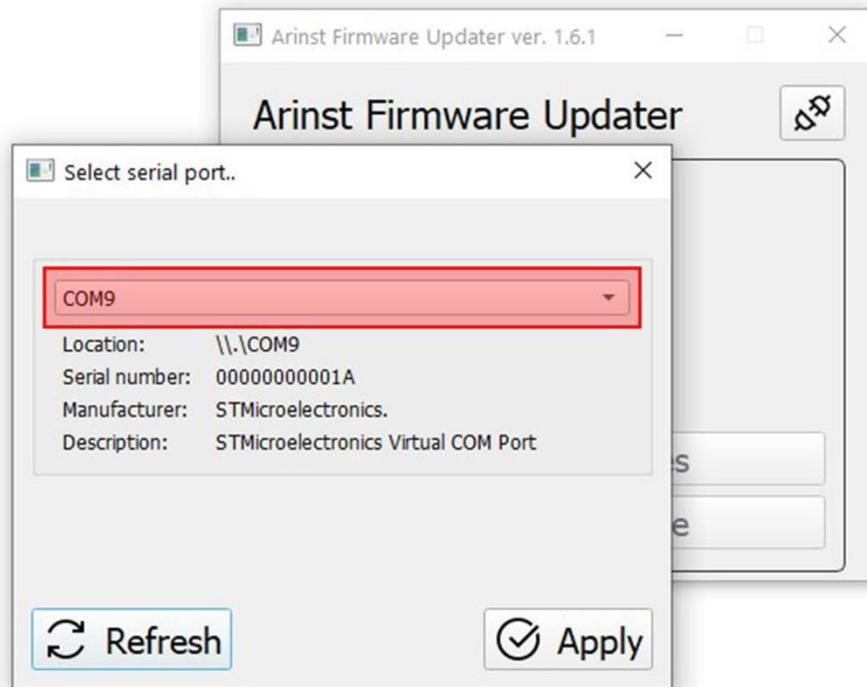

Figure A2.2 – Selection of a virtual COM port for connecting the device
2.4. In the window that opens, select the virtual COM port for connecting the device from the drop-down list (Figure A2.2).
In our example in figure A2.2, the virtual port COM9 is selected.